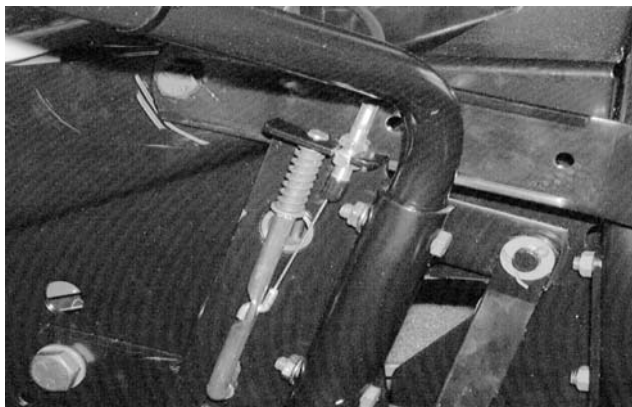

**Figure 12-89.**
The flat side of the belt goes against the idler pulley. See Figure 12-89.
39. Reinstall all belt keepers and belt guard. See Figure 12-89.